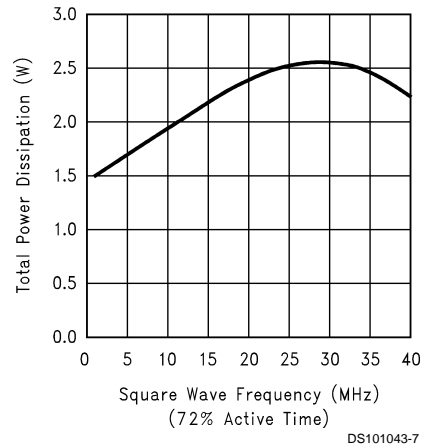

FIGURE 6. Power Dissipation vs Frequency
*Figure 6* shows the maximum power dissipation of the LM2438 vs. Frequency when all three channels of the device are driving an 8 pF load with a 40 Vp-p alternating one pixel on, one pixel off signal. The graph assumes a 72% active time (device operating at the specified frequency) which is typical in a monitor application. The other 28% of the time
The LM2438 case temperature must be maintained below 100°C. If the maximum expected ambient temperature is 70°C and the maximum power dissipation is 2.6W (from *Figure 6*, 30 MHz bandwidth) then a maximum heat sink thermal resistance can be calculated: